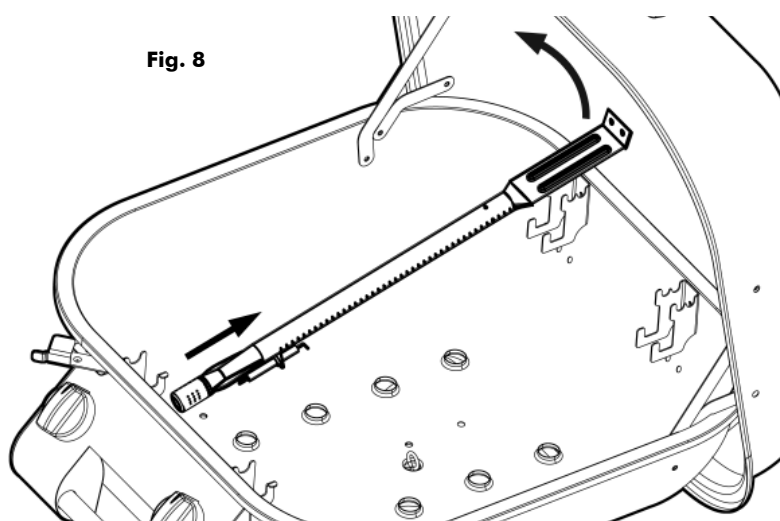

Fig. 8
5. Last, detach the electrode wire from the electrode on the left burner then lift up gently on the back of the burner while sliding the front of the burner off of the valve nozzle at the front. (Fig. 8)